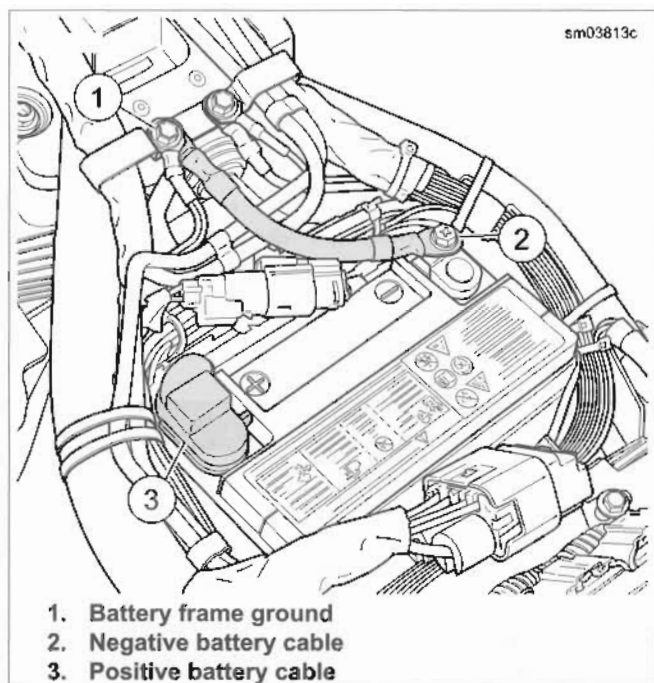

Figure 1-48. Battery Connections
2. See Figure 1-48. Remove battery negative cable (black) from battery negative terminal.